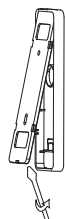

fig. 1
1. Separate the two halves of the bracket. (fig. 1)